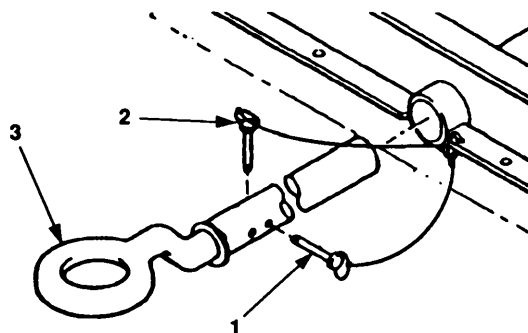

Figure 4-60. Tow Bar Maintenance.
- a. Remove retaining pin (figure 4-60, 1).
- b. Remove anchor pin (2).
- c. Remove tow bar (3).
- a. Install tow bar (3) and align anchor pin holes.
- b. Install anchor pin (2) and retaining pin (1).